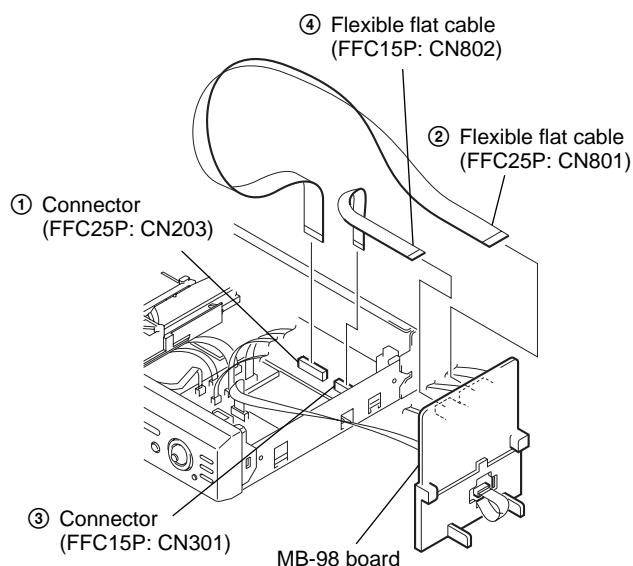

Fig. 5
6) Set the MB-98 board as shown in Fig. 5, Fig.6.